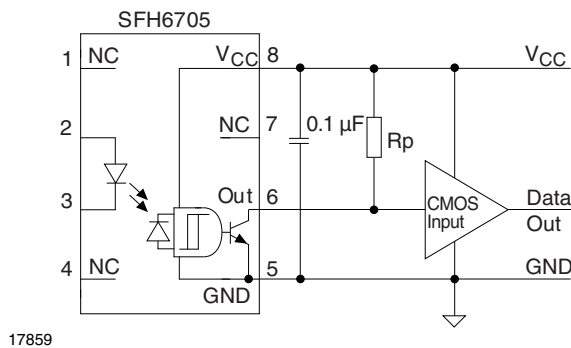

Fig. 11 - Interfacing SFH6705 (Open Collector Output) to CMOS Logic
To ensure reliable logic switching, a pull-up resistor between the output and VCC is recommended (see Figures 11 and 12). For the HCT logic family, this pull-up resistor may be omitted, due to the matching switching level of the coupler's output and the HCT input.
- Using SFH6705 (open collector) and a pull-up resistor (see figure 11)
Using the open collector device, as in figure 11, requires an external pull-up resistor RP. To determine the correct value of this pull-up resistor, use following equations:
Typical values for  $R_P$  by connecting to CMOS logic (according to figures 11 and 12).